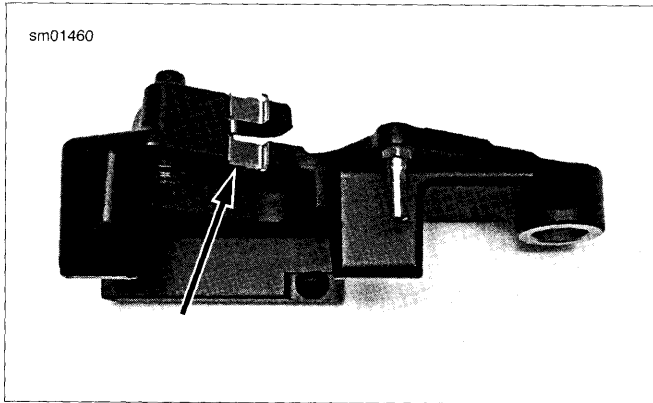

Figure 2-105. Retainer Clip
1. See Figure 2-105. Before installing caliper, make sure that retainer clip is properly installed on mounting bracket.